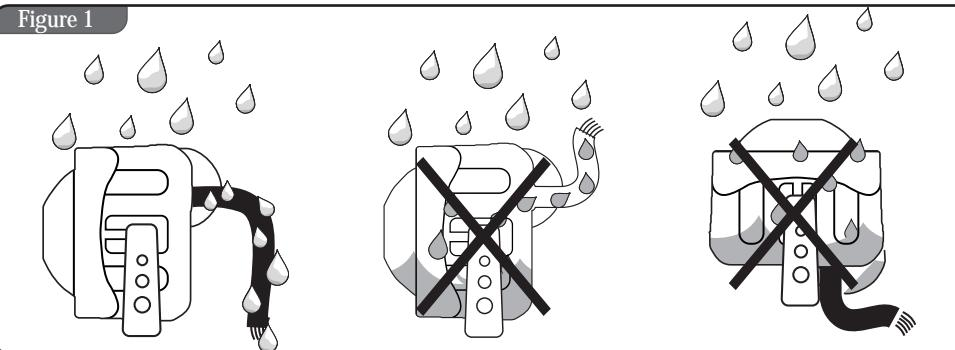

Figure 1
The manufacturer claims any responsibility and does not grant the warranty for faults or malfunctioning resulting from bad installations or stress beyond the technical characteristics of the devices or missing installation of the required protection layers. Do not expose the device to direct water jets, protect it when washing the engine; consult FIGURE 1 for its assembly. Warranty claims due to water infiltration have to be demonstrated not resulting from bad installation. Due to alarm exclusive dissuasive function against possible theft, TEK s.r.l. disclaims any responsibilities for damages caused by theft or theft attempt on the car or on objects inside it. TEK s.r.l reserves the right to execute adjustments whenever needed without prior notice. For a correct functioning of the system it is important to periodically verify the efficiency of the alarm's sensor.
- Find the ideal position: in the engine compartment the sirens and inside the car the central unit (see fig. 1).